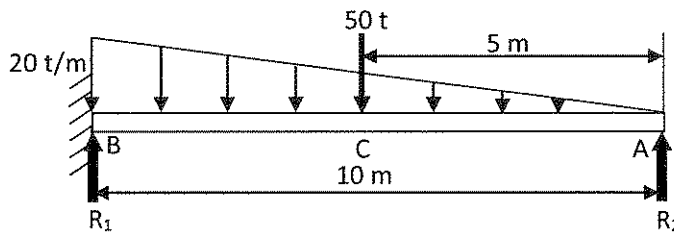

Figure 1
b) A ship structural beam is supported and loaded as shown in Figure 1. Calculate the reactive forces R_1 and R_2 .